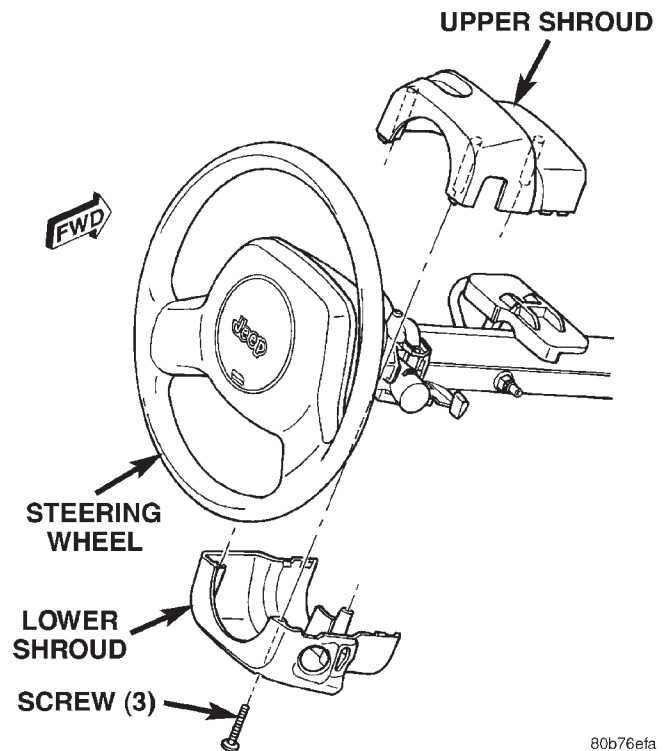

Fig. 5 Steering Column Shrouds Remove/Install
(1) Disconnect and isolate the battery negative cable.
(2) Remove the knee blocker from the instrument panel. Refer to **Knee Blocker** in the Removal and Installation section of Group 8E - Instrument Panel Systems for the procedures.
(3) Remove the three screws that secure the lower steering column shroud to the upper shroud (Fig. 5).